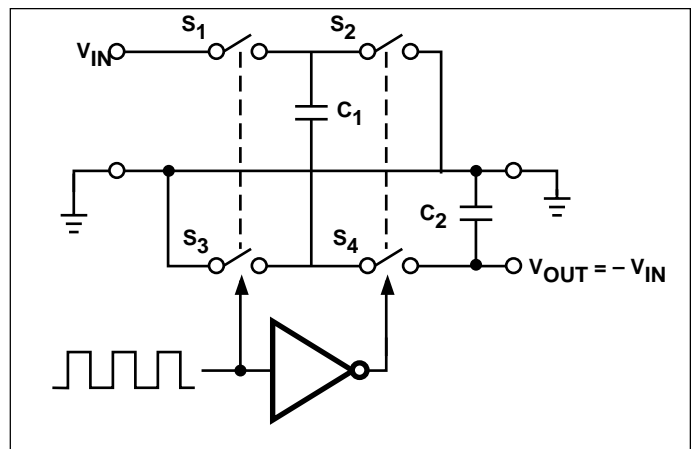
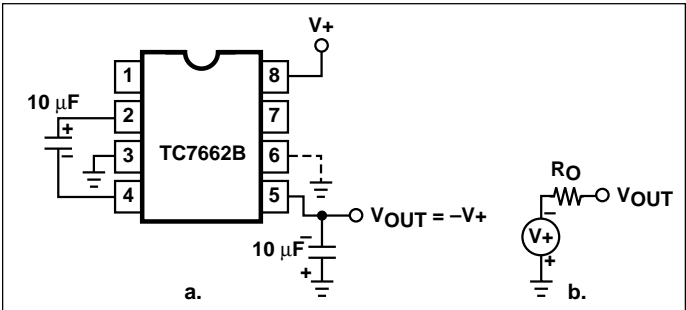
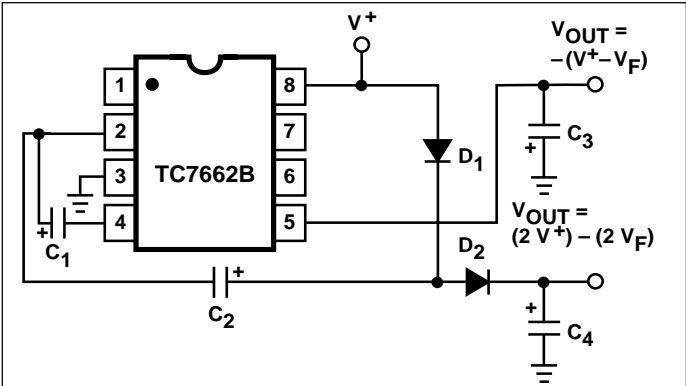

Figure 2. Idealized Negative Voltage Capacitor
Figure 3. Simple Negative Converter and its Output Equivalent
Figure 10. Combined Negative Converter and Positive Doubler
### ELECTRICAL CHARACTERISTICS: V+ = 5V, TA = +25°C, OSC = Free running, Test Circuit Figure 2, Unless Otherwise Specified.
The TC7662B contains all the necessary circuitry to complete a negative voltage converter, with the exception of two external capacitors which may be inexpensive 1 $\mu$ F polarized electrolytic types. The mode of operation of the device may be best understood by considering Figure 2, which shows an idealized negative voltage converter. Capacitor C1 is charged to a voltage V+ for the half cycle when switches S1 and S3 are closed. (Note: Switches S2 and S4 are open during this half cycle.) During the second half cycle of operation, switches S2 and S4 are closed, with S1 and S3 open, thereby shifting capacitor C1 negatively by V+ volts. Charge is then transferred from C1 to C2 such that the voltage on C2 is exactly V+, assuming ideal switches and no load on C2. The TC7662B approaches this ideal situation more closely than existing non-mechanical circuits.
In the TC7662B, the four switches of Figure 2 are MOS power switches; S1 is a P-channel device and S2, S3 and S4 are N-channel devices. The main difficulty with this approach is that in integrating the switches, the substrates of S3 and S4 must always remain reverse biased with respect to their sources, but not so much as to degrade their "ON" resistances. In addition, at circuit start up, and under output short circuit conditions (VOUT = V+), the output voltage must be sensed and the substrate bias adjusted accordingly. Failure to accomplish this would result in high power losses and probable device latchup.
where V1 and V2 are the voltages on C1 during the pump and transfer cycles. If the impedances of C1 and C2 are relatively high at the pump frequency (refer to Figure 2) compared to the value of RL, there will be a substantial difference in voltages V1 and V2. Therefore, it is desirable not only to make C2 as large as possible to eliminate output voltage ripple, but also to employ a correspondingly large value for C1 in order to achieve maximum efficiency of operation.
The majority of applications will undoubtedly utilize the TC7662B for generation of negative supply voltages. Figure 3 shows typical connections to provide a negative supply where a positive supply of +1.5V to +15V is available. Keep in mind that pin 6 (LV) is tied to the supply negative (GND) for supply voltages below 3.5 volts.
The output characteristics of the circuit in Figure 3 can be approximated by an ideal voltage source in series with a resistance as shown in Figure 3b. The voltage source has a value of  $-(V_+)$ . The output impedance ( $R_O$ ) is a function of the ON resistance of the internal MOS switches (shown in Figure 2), the switching frequency, the value of  $C_1$  and  $C_2$ , and the ESR (equivalent series resistance) of  $C_1$  and  $C_2$ . A good first order approximation for  $R_O$  is:
Figure 10 combines the functions shown in Figures 3 and 9 to provide negative voltage conversion and positive voltage doubling simultaneously. This approach would be, for example, suitable for generating +9V and -5V from an existing +5V supply. In this instance, capacitors  $C_1$  and  $C_3$  perform the pump and reservoir functions, respectively, for the generation of the negative voltage, while capacitors  $C_2$  and  $C_4$  are pump and reservoir, respectively, for the doubled positive voltage. There is a penalty in this configuration which combines both functions, however, in that the source impedances of the generated supplies will be somewhat higher due to the finite impedance of the common charge pump driver at pin 2 of the device.